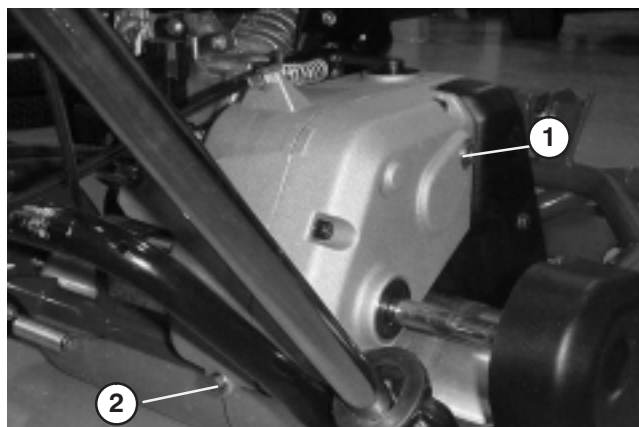

Figure 35
2. Remove the drain plug from the rear of the transmission (Fig. 35).
3. Push down on the handle and tip the machine back. Remove the check/fill plug from the right-hand side of the transmission (Fig. 35).